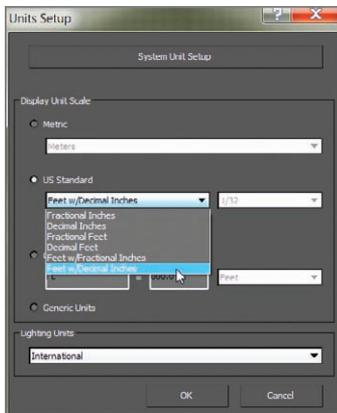

FIGURE 3.2 From the US Standard dropdown
3. From the US Standard drop-down menu, choose Feet w/Decimal Inches, as shown in Figure 3.2.